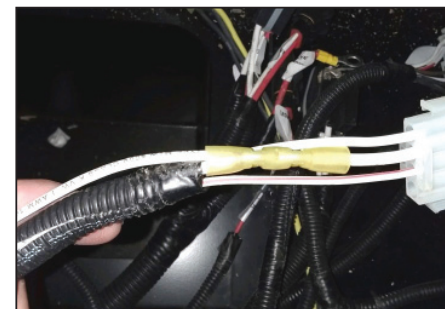

Figure 4
8. Apply a new yellow butt connector to the twisted wires. Take the single wire end of 003AA 12 gauge white wire going to the connector, strip 3/8" from its end, and connect it to the opposite end of the yellow butt splice as shown in Figure 4, making a 3-wire splice. Wrap the connection with two layers of electrical tape after crimping; reconnect this to the fuse panel from where it was removed earlier.